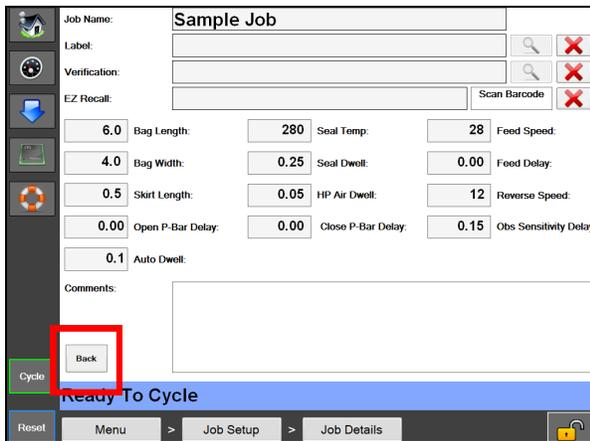

Figure 5-3B. Job Details Screen.
3. Edit the appropriate information in each box. **Figure 5-3B.**
4. Press the back button. **Figure 5-3B.**